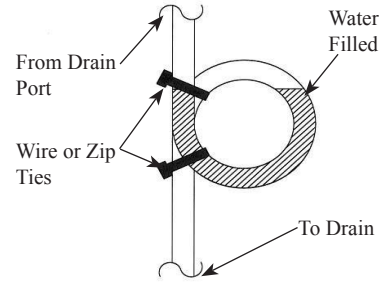

Figure 3
- Loop the drain tube so that it has a circular trap. See Figure 3.